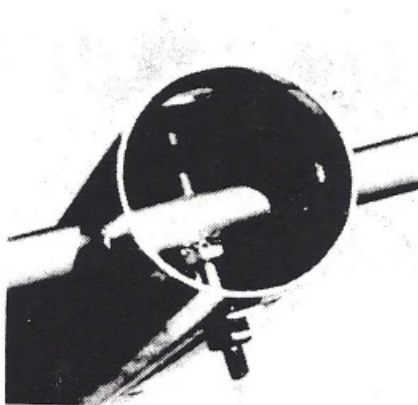

figure 2a
- Install 2 of the 1/2" dia X 18" long rod support brackets in one end of an A-type boom section. Refer to figures 2a & 2b. Secure in the boom section with 10-32 X 2 1/2" bolts, nuts, and lockwashers.